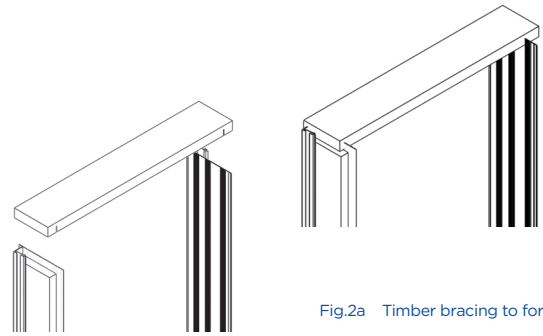
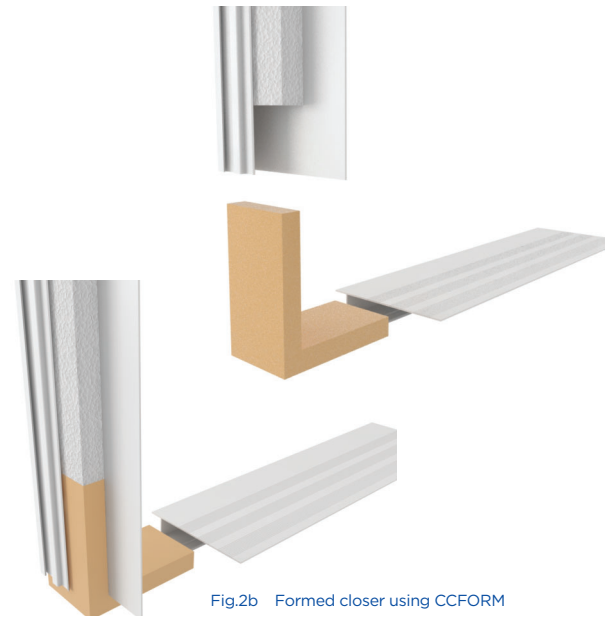

Fig.2a Timber bracing to former
Fig.2b Formed closer using CCFORM
- In first fix application the cavity closer should be nailed to the jamb/sill of the door or window frame and the whole assembly built in as work proceeds. Alternatively the closer can be built in sections using fixing ties as work proceeds or pre built to act as an opening former by using a timber brace (see fig.2a) and corner forms (see fig.2b)